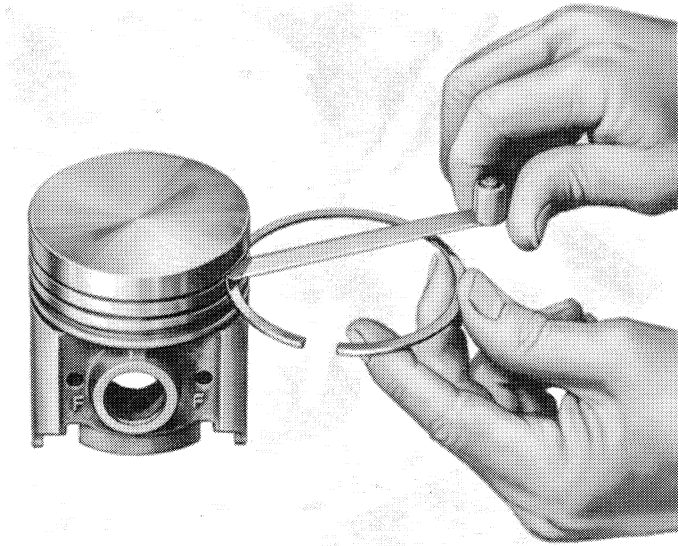

Figure 43—Checking Ring Side Clearance
1. Inspect pistons for fractures at the ring lands, skirts and pin bosses. Check for wear at the ring lands by using new rings and a feeler gauge as shown in Figure 43. The rings should have the following clearance: